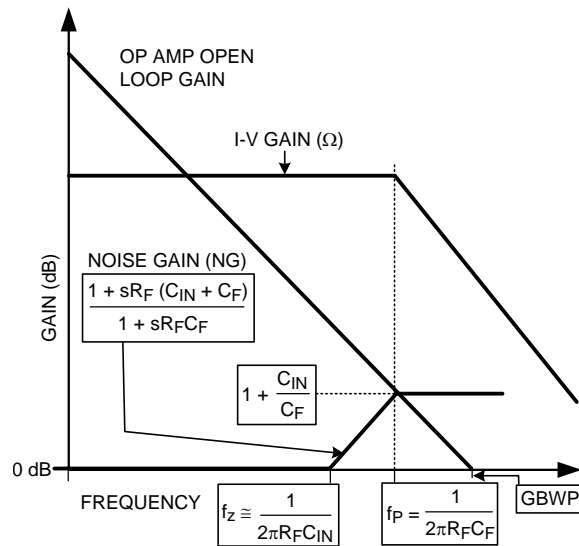

Figure 64. Transimpedance Amplifier Noise Gain & Transfer Function
Figure 64 shows the Noise Gain (NG) and transfer function (I-V Gain). As with most Transimpedance amplifiers, it is required to compensate for the additional phase lag (Noise Gain zero at f_z) created by the total input capacitance (C_D (diode capacitance) + C_{CM} (LMH6629 CM input capacitance) + C_{DIFF} (LMH6629 DIFF input capacitance)) looking into R_F ; this is accomplished by placing C_F across R_F to create enough phase lead (Noise Gain pole at f_p) to stabilize the loop.